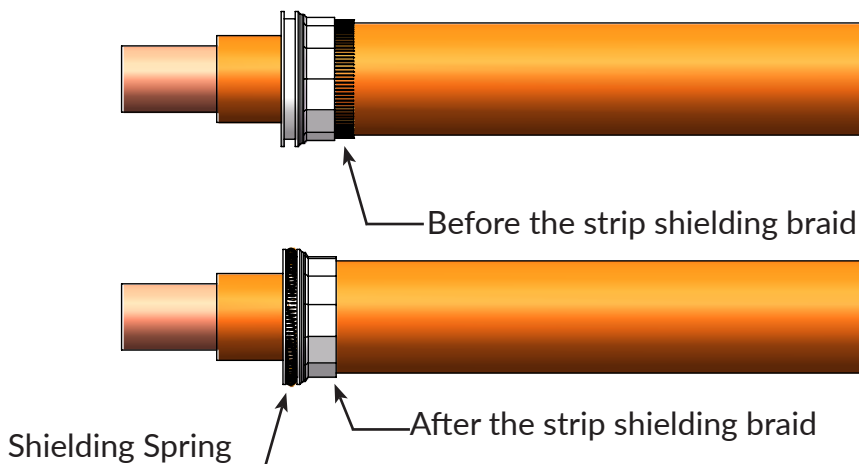

Figure 7
6) As figure 7 shown, crimping the inner shielding ring, outer shielding ring and outer jacket to use specified tooling, see tale 4 for crimping height H1, then cut the extra shielding braid, at last assemble the spring into the outer shielding ring: